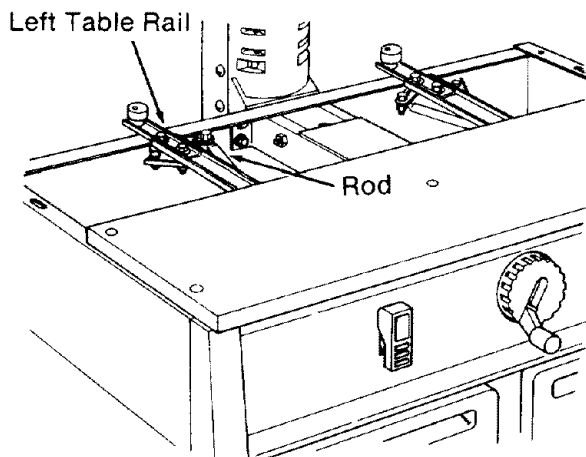

Fig. 83
10. Attach the *left rod* to the *left table rail* with a hex head bolt and flat washer. Then put another washer and a locknut on the bolt, and tighten using two 1/2 inch wrenches or sockets. (Figure 83)